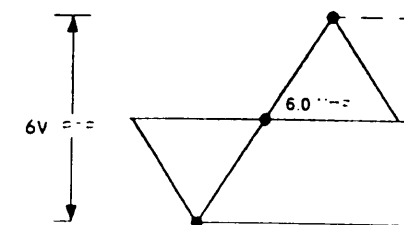

Fig 7.
- 2: Adjust T104 so sound carrier is centred as in Fig. 7.